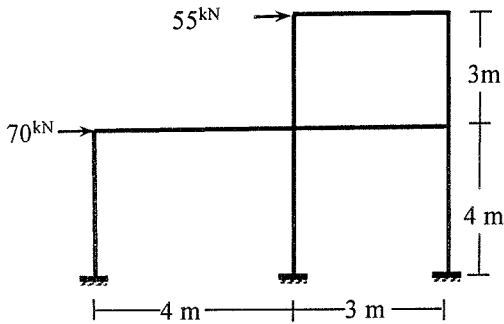

Fig.5
5. Analyze the frame shown in Fig.5 by Cantilever Method to draw the Shear Force and Bending Moment diagrams. [10]